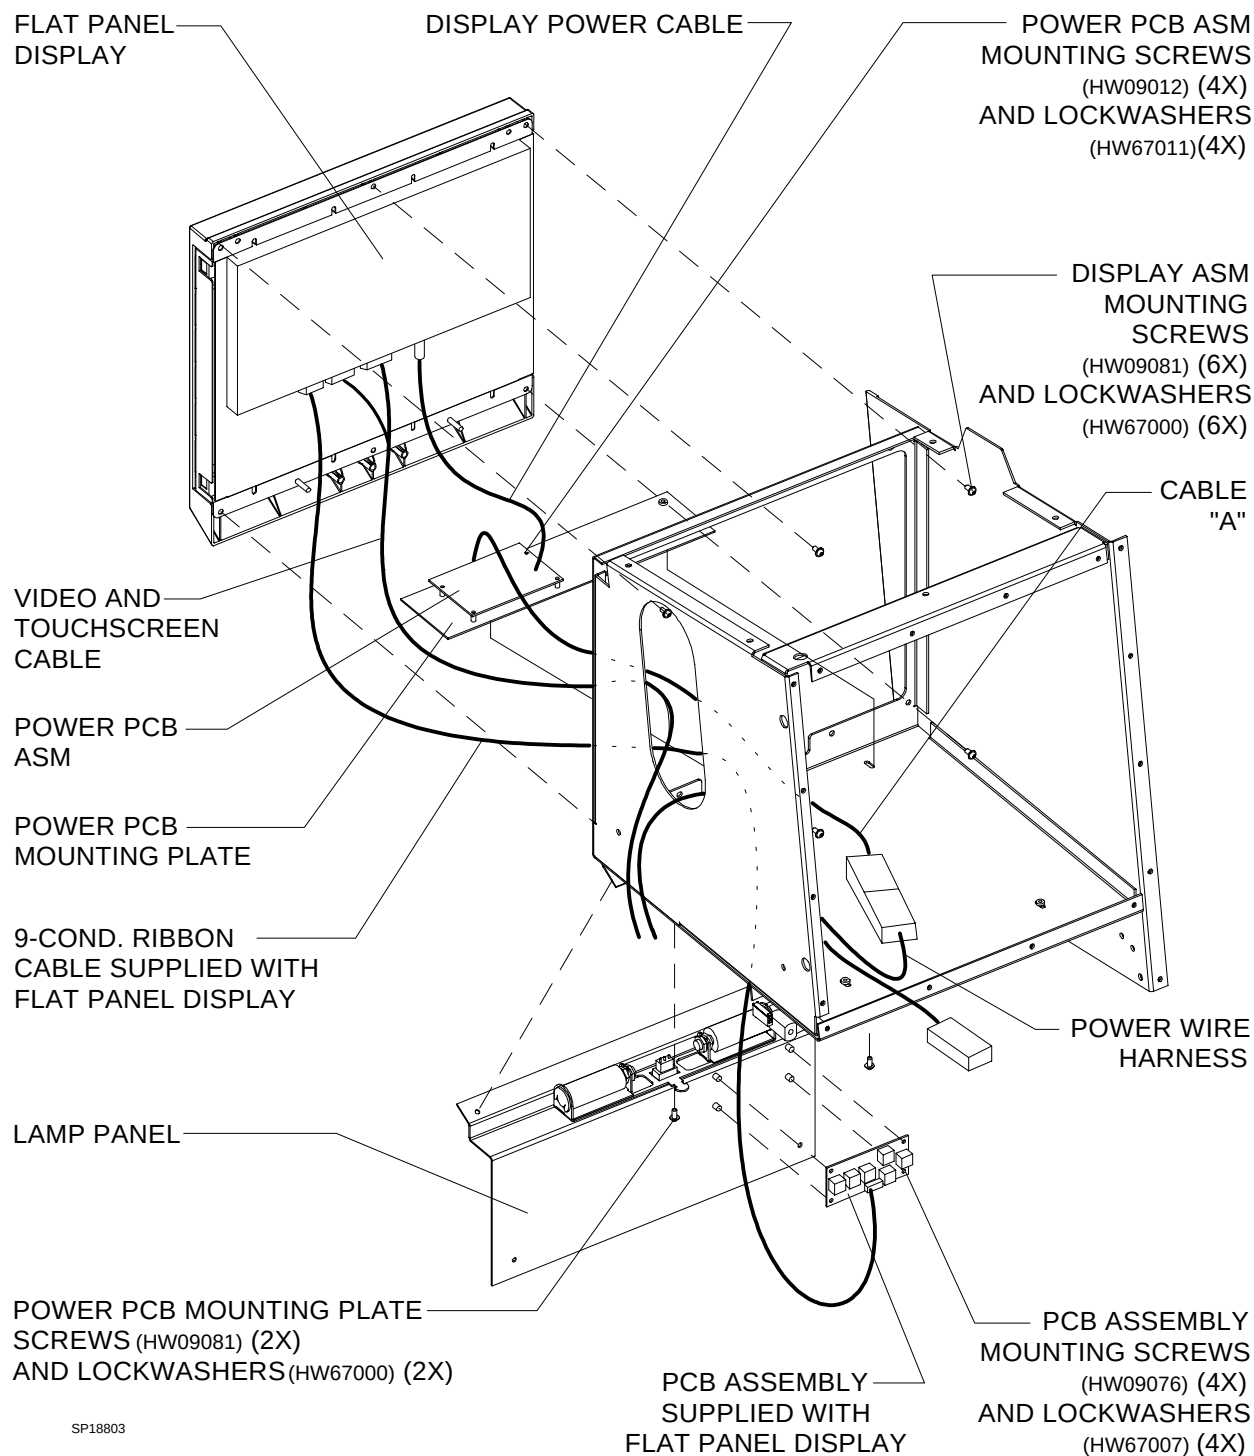

FIGURE 3. Flat Panel Display Installation
11. Attach the flat panel power PCB assembly to the power PCB mounting plate with four 4-40 x $\frac{3}{8}$ in. btn hd skt screws and #4 int-t lock washers. See Figure 3.
Join Cable "A" to the power wire harness as shown in Figure 3.
17. Join the power, video, touchscreen and ribbon connectors to the flat panel display assembly. See Figure 3.